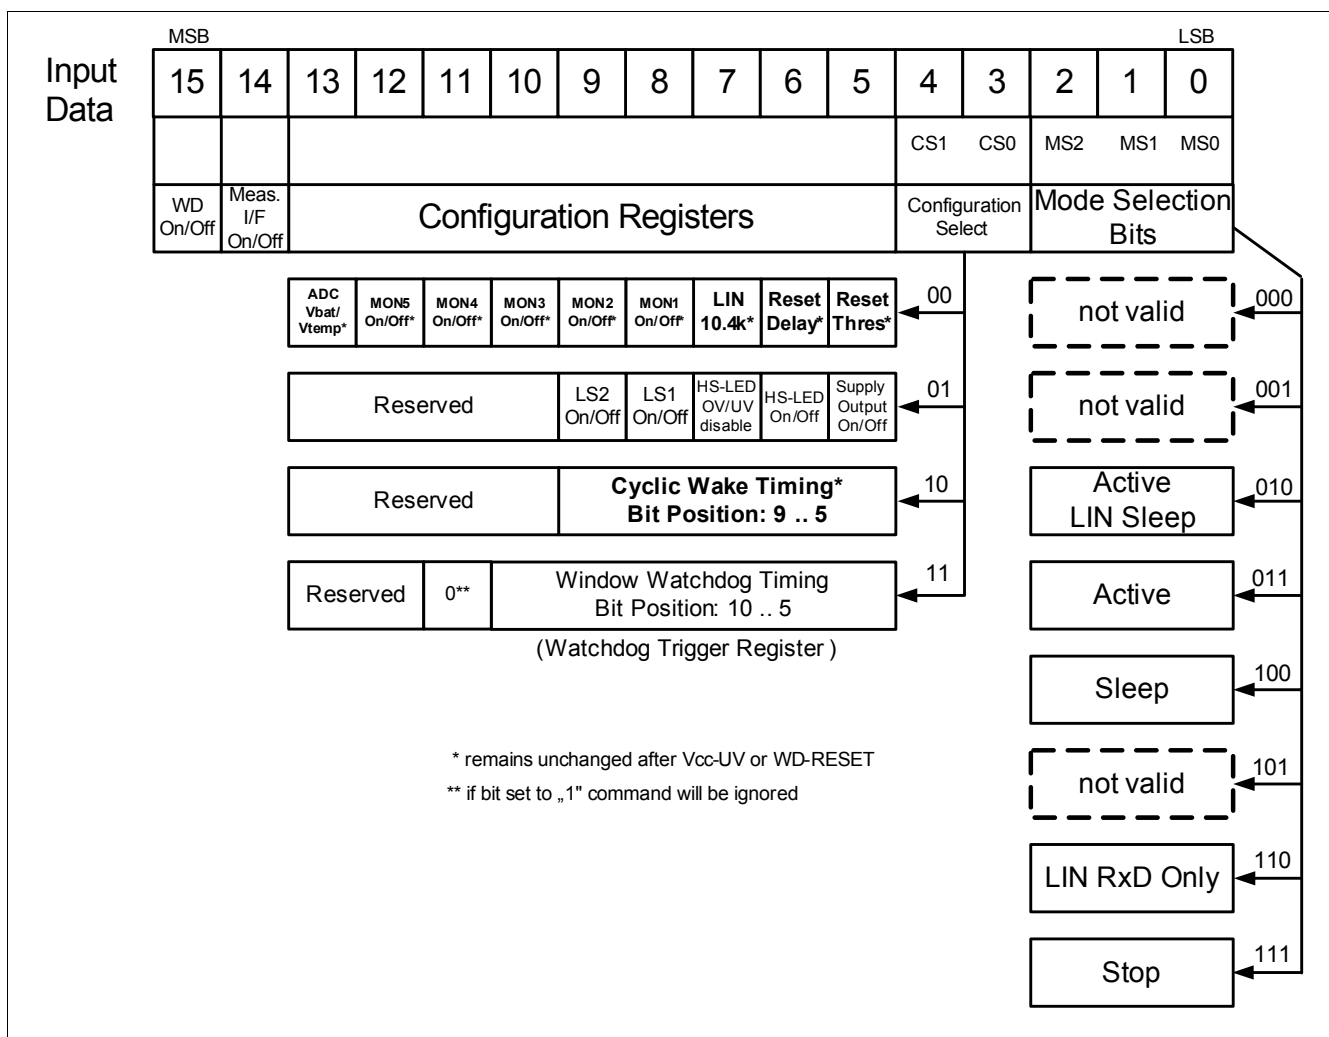

Figure 10 16-Bit SPI Input Data / Control Word
*Note: The window watchdog is automatically disabled once the LDO output current goes below a specified “watchdog current threshold”, unless the SPI setting “WD On/Off” prevents this (see Figure 10, Watchdog disable current threshold, Table 14 and “Window Watchdog Reset Period Settings” on Page 23).*
*Note: The window watchdog is automatically disabled once the LDO output current goes below a specified “watchdog current threshold”, unless the SPI setting “WD On/Off” prevents this (see Figure 10).*